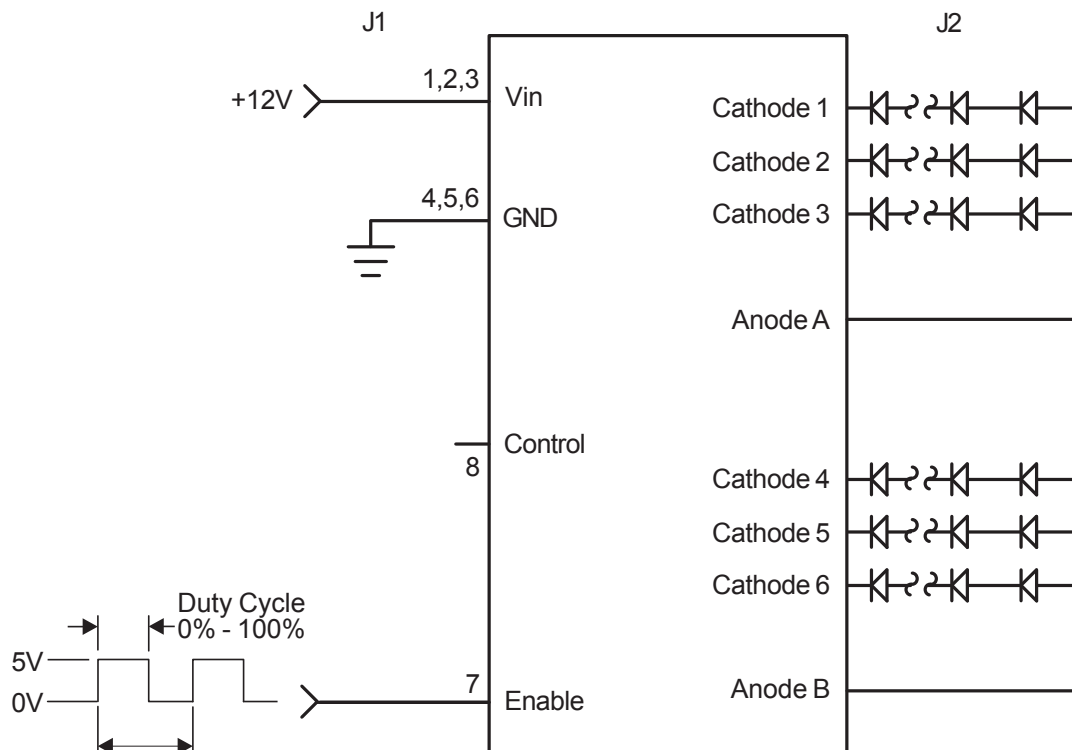

Figure 2
- OPERATION: External PWM configuration as shown in Figure 2 allows the user to control display brightness with an externally generated PWM signal. The user is responsible to provide the PWM signal.